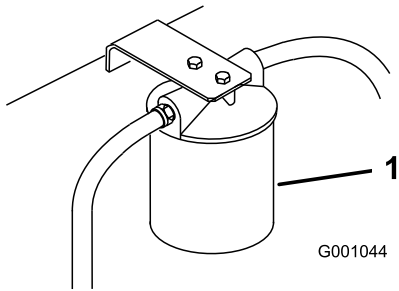

Figure 64
3. Place drain pan under filter, remove the old filter and wipe the filter adapter gasket surface clean (Figure 64).